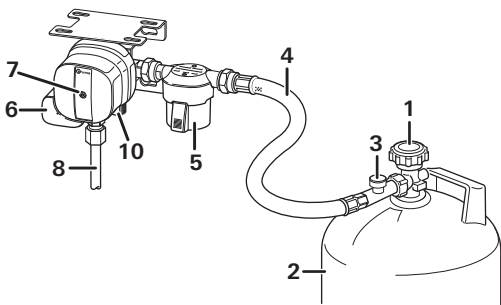

Figure 1a
- Connect the gas cylinder (2) and ensure that the hose connection is in perfect condition.
- Open the cylinder valve (1).
- Firmly press the hose rupture protection (figure 1a – 3) on the high-pressure hose for about 5 seconds.
- If the yellow reset button (7) is not pressed (“not ready for operation” position), reset the crash sensor.
- Close the valve (1) of the empty gas cylinder (2).
- Remove the high-pressure hose (4) from the gas cylinder (2) and remove the clip-on adapter, if present.
- Open the full gas cylinder's valve (1).
- Press the hose rupture protection (figure 1a – 3) and if necessary the yellow reset button (7), turn it slightly clockwise and hold it for 5 seconds.
- Screw the country-specific high-pressure hose (4) to the gas filter (5) / MonoControl CS inlet and to the cylinder (2 / or the clip-on adapter).